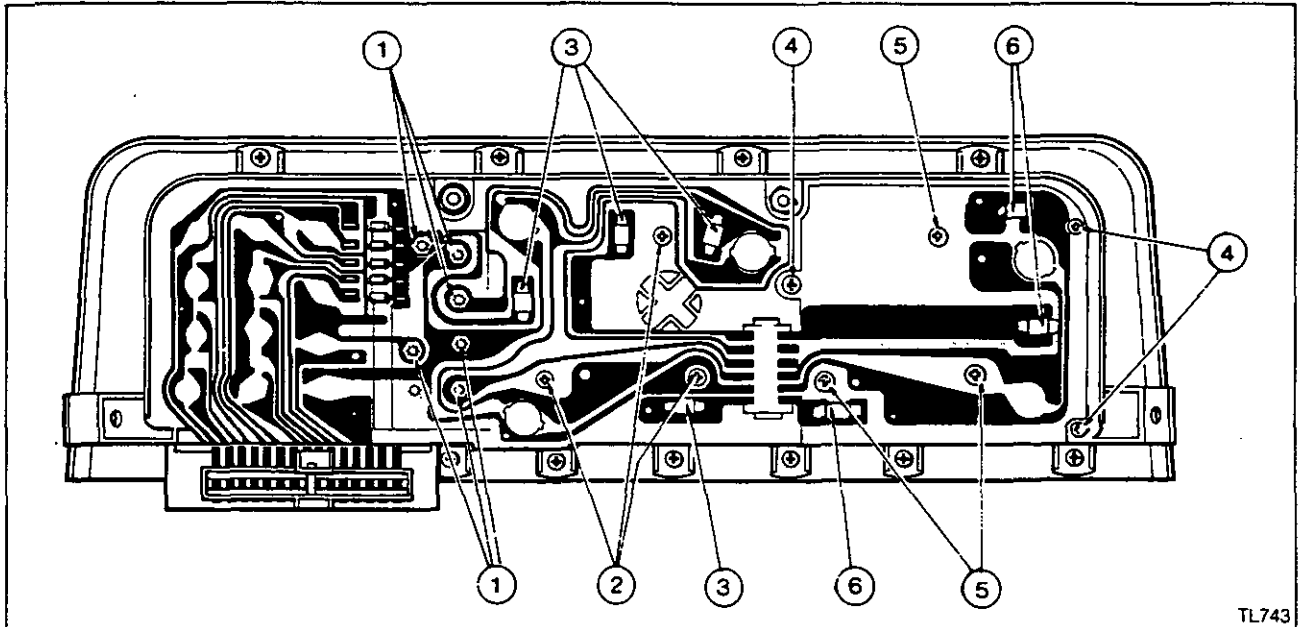

Figure 1
Fuel and Temperature Gauge (Figures 1 and 2).
1. Remove the plastic bridge piece and the 6 nuts and washers (1 Fig. 1) retaining the fuel and temperature gauge to the panel.
Tachometer. (Figure 1 and 3)
1. Remove the 3 screws (2 Fig. 1) holding the tachometer in place on the back moulding.
5. Remove the 4 clips (3 Fig. 1).
Speedometer. (Figures 1 and 4)
2. Remove the screws (4 Fig.1) holding the small back panel.
5. Remove the 3 screws (5 Fig.1) holding the speedometer to the back plate and remove the unit.
7. Remove the 3 clips (6 Fig.1).